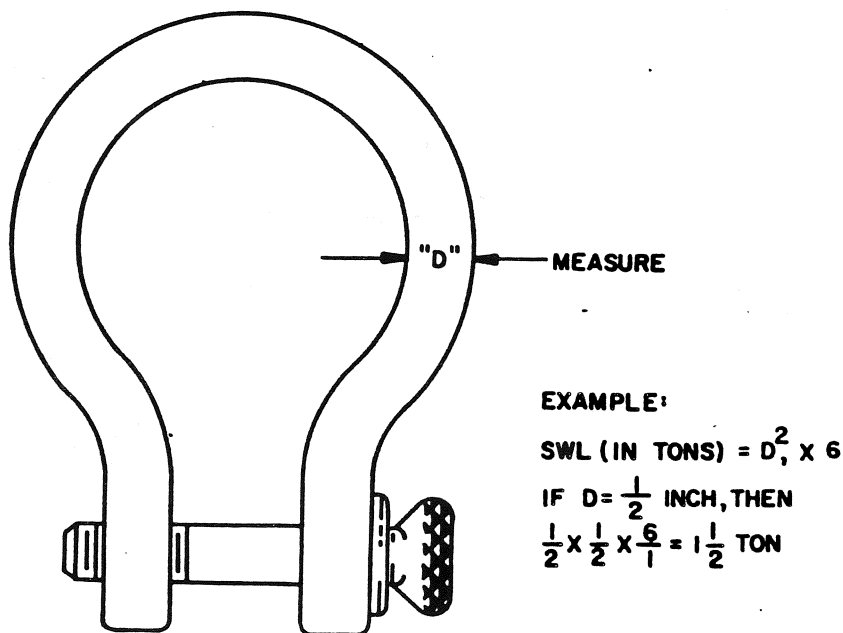

Figure 8.28. Shackle Safe Working Load
2. Shackles are not proof loaded (except as a sling assembly) by the Maintenance Department and one should calculate the approximate safe working load by using the formula ($SWL = D^2 \times 6$) prior to selection and use of the shackle (see Figure 8.28).